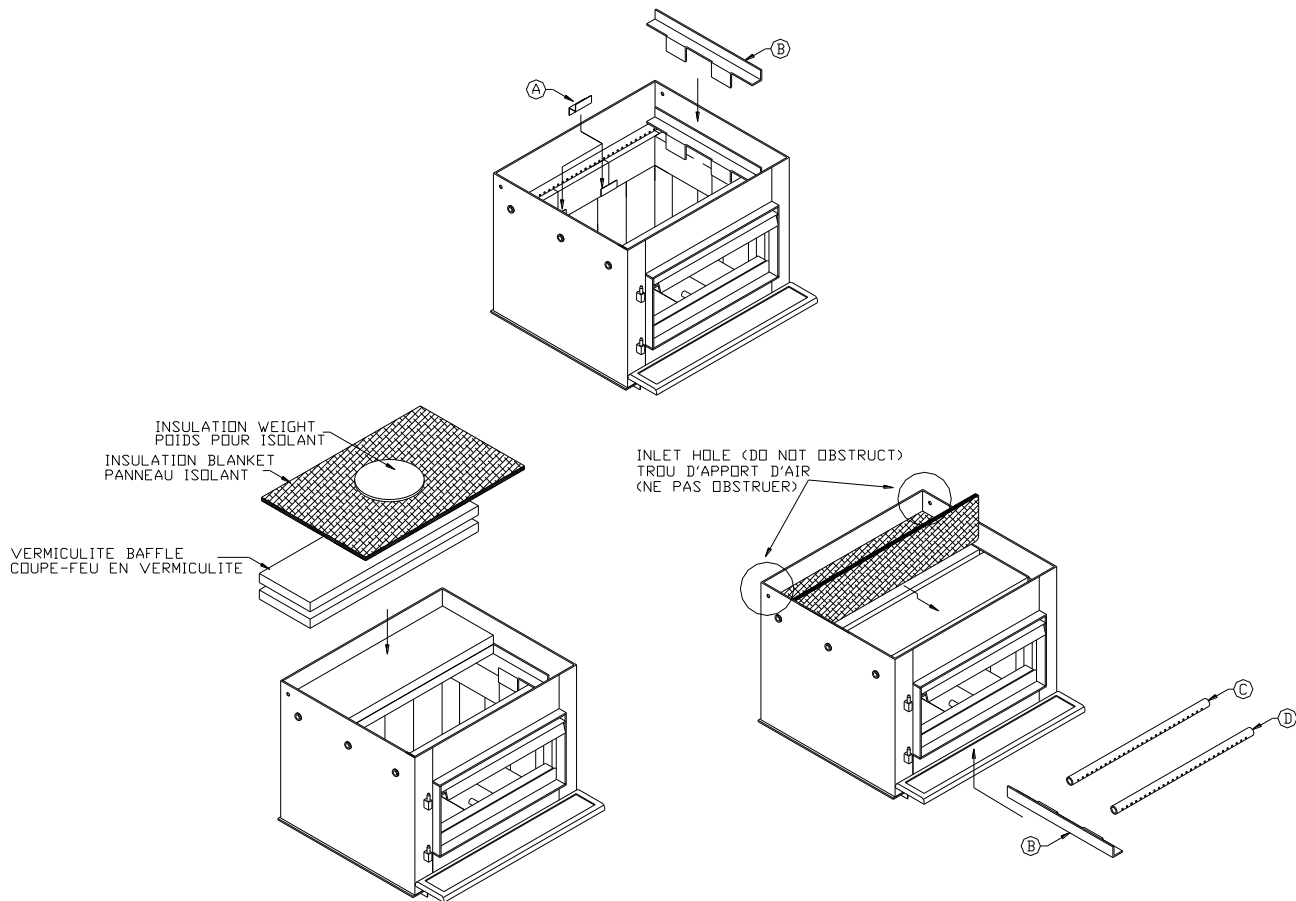

Figure 7
- 1- Install the stainless steel brick retainers (A) on the rear centre bricks intersections.
- 2- Install the first side baffle support (B) on one side of the firebox as shown in figure 7.